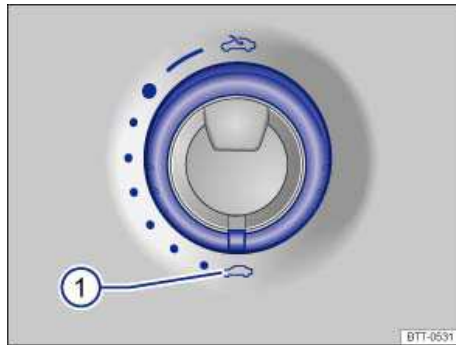

Fig. 31 In the headliner: Sunroof rotary switch.
- The switch must be rotated to the “Closed” position ⇒ fig. 31 \(1\).